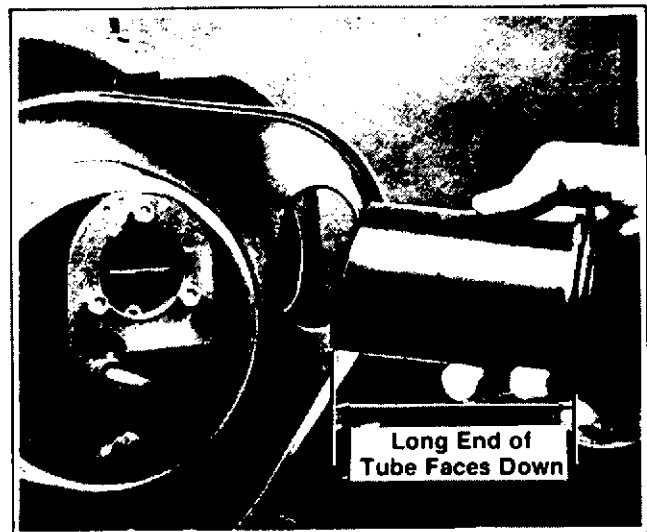

Figure 3-3. Air Cleaner Tube Installation
5. Angled end of tube must be installed into blower housing, short end of tube length up and long end length down (see Figure 3-3 for tube position). Lips on other end of tube must form tight seal on back plate.